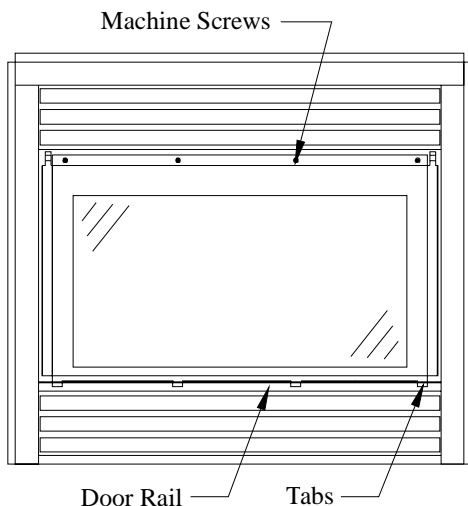

Figure 18b. Installing Glass Door.
To install/remove the glass door simply attach/remove the four (4) machine screws, align tabs at the bottom of the door with the slots in the bottom door rail (See figure 18b). Ensure that a good seal is maintained.